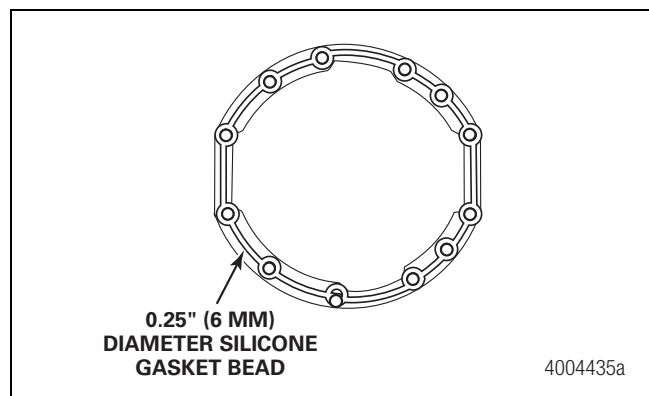

Figure 5.80
5. Apply a 0.25-inch (6 mm) continuous bead of silicone gasket material to the mounting surface of the housing where the carrier fastens. Figure 5.80.